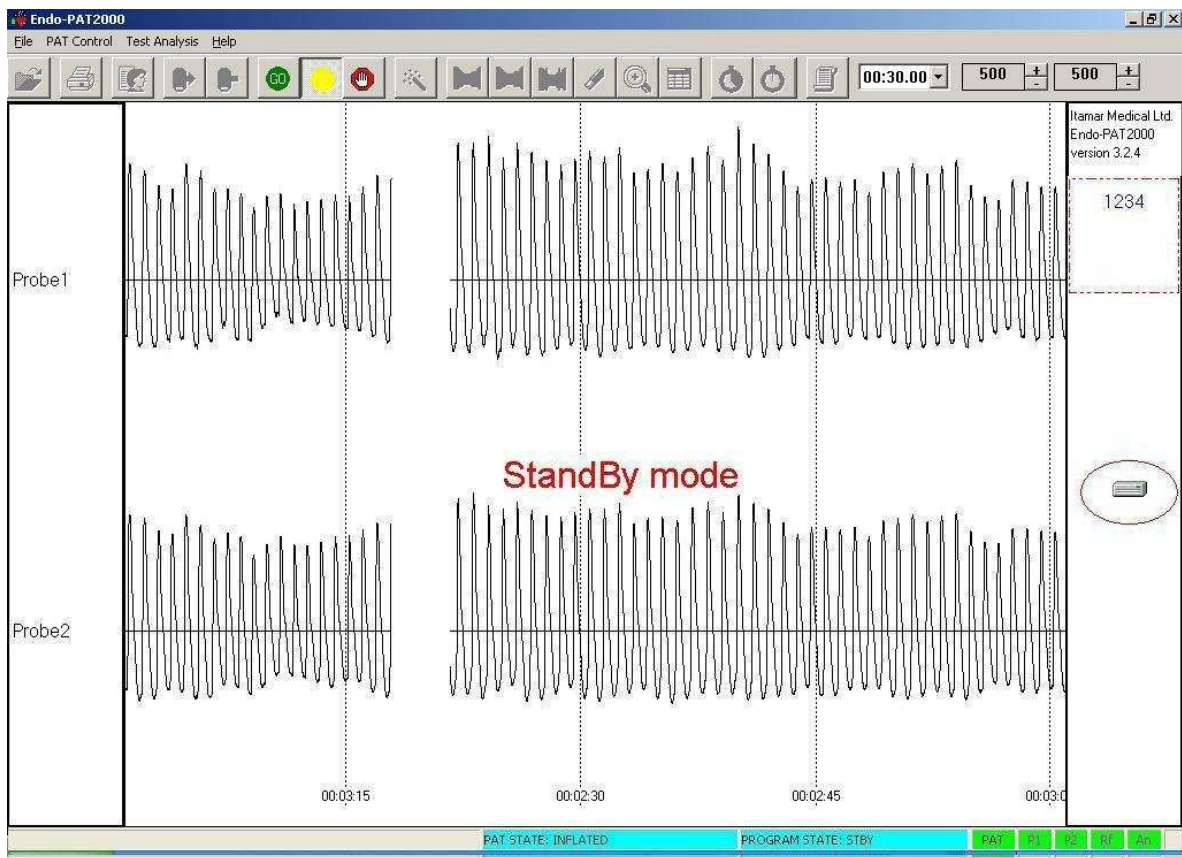

Figure 27 - StandBy mode
1. Click the Standby  icon, from the main screen. The system will display the signals from the two PAT channels, allowing the user to check the signals and adjust the signal gain/scaling to properly visualize the PAT signals without saturating the screen. It is recommended to view the signal in a 1 minute screen (00:01:00). Signals from both PAT channels (Probe 1 and Probe 2) appear in the Trace Window (as well as the trend channels, if these are selected in the system setup). Visually inspect the PAT signal (see Figure 27) for at least 1 minute. If the signal seems noisy, make sure that the probes are not in touch with anything at all. As the system equilibrates, having a few leaks in the first few minutes is normal. If you encounter more than 2-3 leaks per minute, wait in Standby mode for a few more minutes, until at least a minute passed since the last leak, or refer to the troubleshooting section (section 9).
|  | <p style="text-align: center;">NOTE</p> <p>While working in the StandBy mode, data is not recorded, and therefore it is impossible to review or save the study.</p> <p>The notification: “StandBy mode” (Figure 27) is displayed, and will disappear when the  button is clicked.</p> |